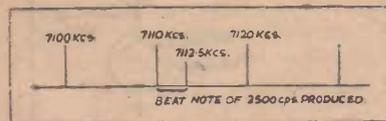
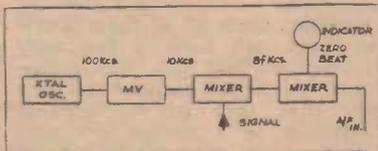

Fig. 1. This diagram indicates one method of producing a beat note of 2500 c.p.s.
Fig. 2. The basic circuit arrangement necessary to produce the beat frequency is shown in this block diagram.
The required acoustic power requirement for the conditions of use stated is obtained from Figs. 1 and
**Indoors:** The greatest sound pressure level is required for the reproduction of concert music. For this type of reproduction curve A of Fig. 1 should be used. For the average sound system used to re-
Systems providing the acoustic power capacity indicated on Figs. 1 and 2 will produce average sound pressure levels approximately, as follows, on steady tones at rated power:—
- Curve A (Fig. 1), Concert music indoors, 105 db.
- Curve B (Fig. 1), Average music indoors, 95 db.
- Curve C (Fig. 1), Speech only indoors, 80 db.
The information contained in Figs. 1 and 2 is based on the assumption that the locations being covered are quiet locations. Should the acoustic noise level be higher than 70 db, the required acoustic power capacity of the sound system must be increased by the number of db that the noise is higher than 70 db for the curve in Fig. 2 and curve C in Fig. 1.
**Then:** From Fig. 1, curve B: the acoustic power capacity for 64,000 cubic feet is 23.5 db above .001 watt.
Since the frequency of such an oscillator is usually either 100 or 1000 Kcs. it is necessary, if the measurement of frequencies which are not multiples of 100 Kcs. is to be undertaken, to provide a frequency dividing circuit, e.g., a multivibrator, so as to give spot frequencies at 10 Kcs. intervals. It will be seen that any frequency which lies between two 10 Kcs. points will produce a beat frequency, and if this beat frequency be measured, it then becomes a relatively simple matter to determine the absolute frequency. The basic idea of this frequency comparison is shown in Fig. 1, and the necessary circuit arrangements are shown in block form in Fig. 2.